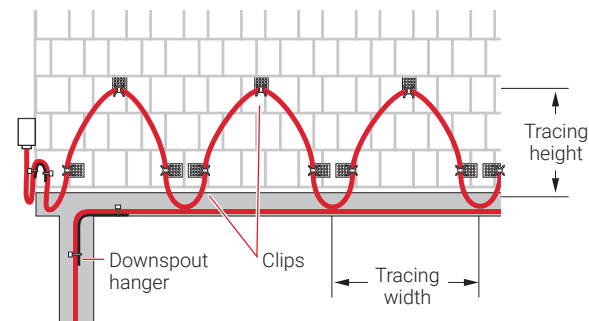
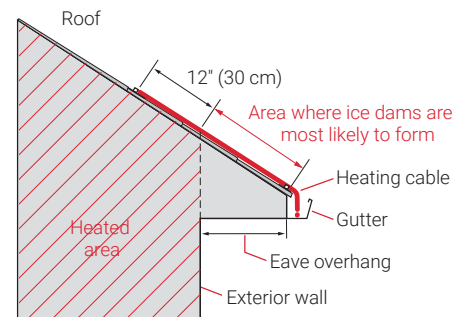

Fig. 5 Front view of roof with IceStop system
Fig. 6 Side view of roof with IceStop system
Fig. 5 and Fig. 6 below illustrate several important terms:
- Run heating cable up the roof until it is 12 inches (30 cm) past the exterior wall into the heated area (see Fig. 6 on page 102).
- Run the heating cable up the seam until it is 12 inches (30 cm) past the exterior wall and into a heated area, Fig. 6 on page 102.